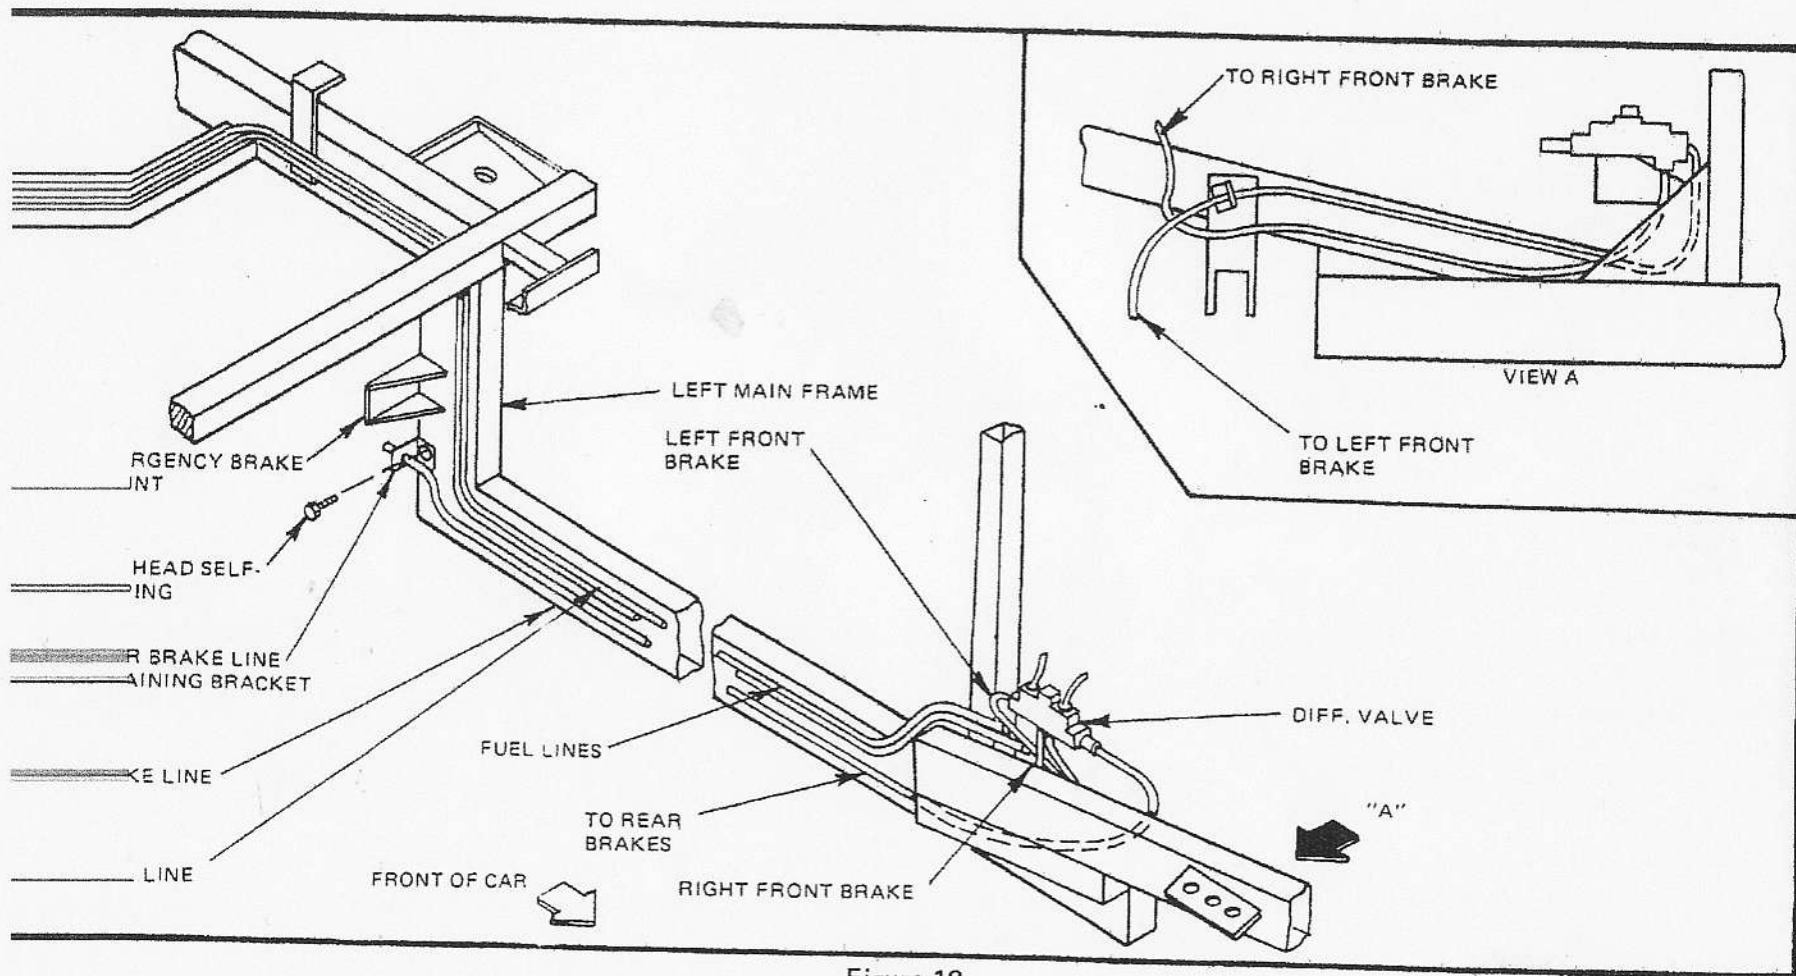

Figure 18
- ☐ Attach rear brake line retaining bracket, removed from Chevette, to frame directly under the emergency brake mount. (Figure 18) Drill 1/4" hole and secure with 5/16 x 1" self-tapping bolt. Termination of lines should coincide with diagrams.
- ☐ Route right front brake line over frame and secure to back of cross member. Attach front brake hose mounts to frame just behind cross member. Drill 1/4" holes and secure with 5/16 x 1" self-tapping bolts. (Figure 18)